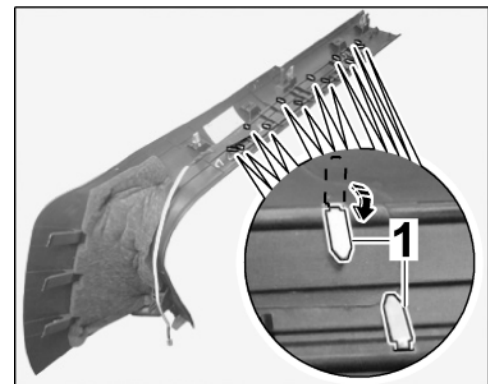

Figure 22
- 3.3.2 Press back the illuminated door-sill guard and A-pillar trim panel (lower) together and turn the tabs. ⇒ *Figure 22*